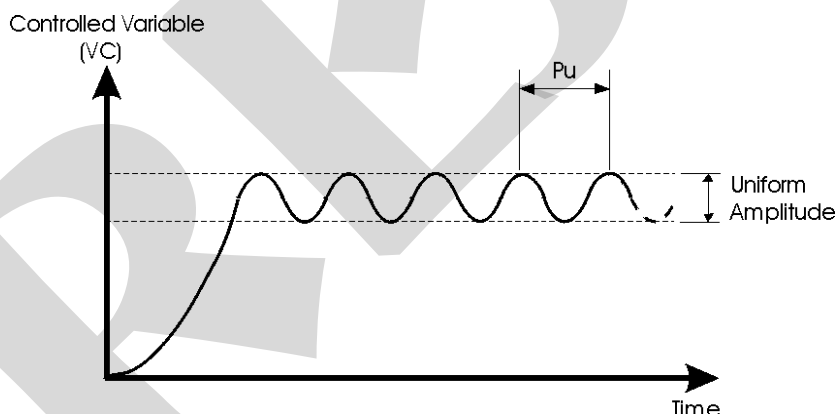

Fig. 27 - Steady state oscillation
- iii) Adjust the gain value (PROP), also called sensitivity, until reaching a limit value in which the controlled variable will show a uniform oscillation, i.e., with constant amplitudes (see figure 27). Values above that limit produce amplifying oscillations, whereas gain values below that limit will dampen those oscillations. By ultimate sensitivity (K_u) it is meant that limit gain and by ultimate period (P_u) it is meant the period of constant oscillation caused by this sensitivity.